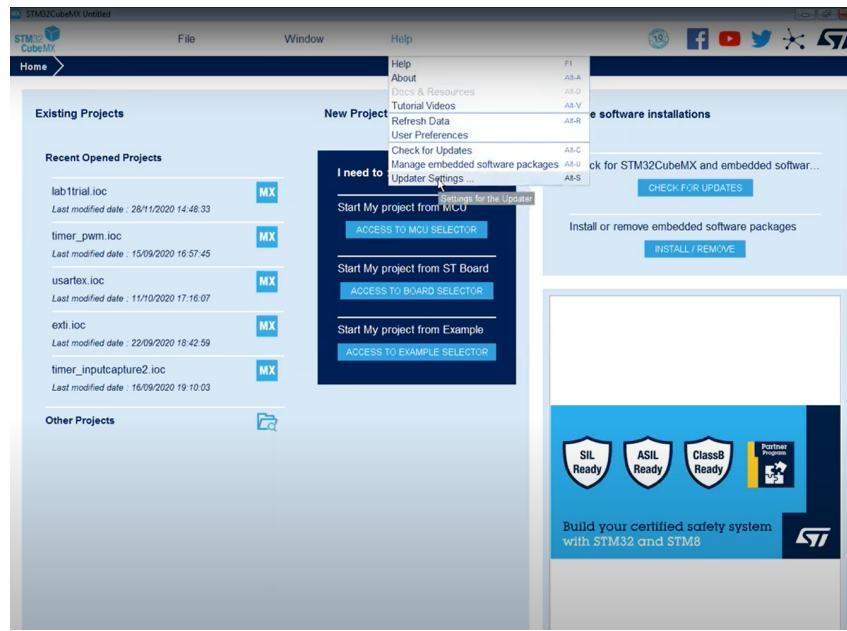
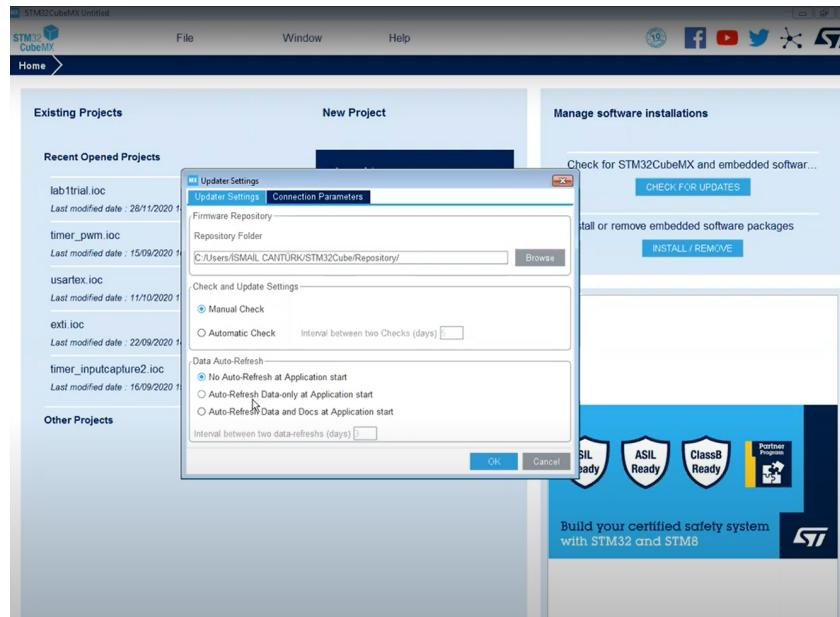

Figure 4
Figure 5
3. To prevent it from updating all the time, settings are made as seen in Figure 4 and Figure 5.